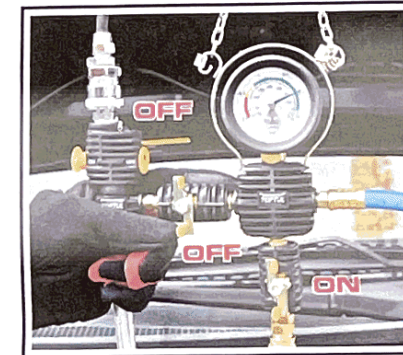

Fig.7
4. Turn on the coolant control valve (No.6), coolant will be introduced into the radiator immediately. (Fig.7)